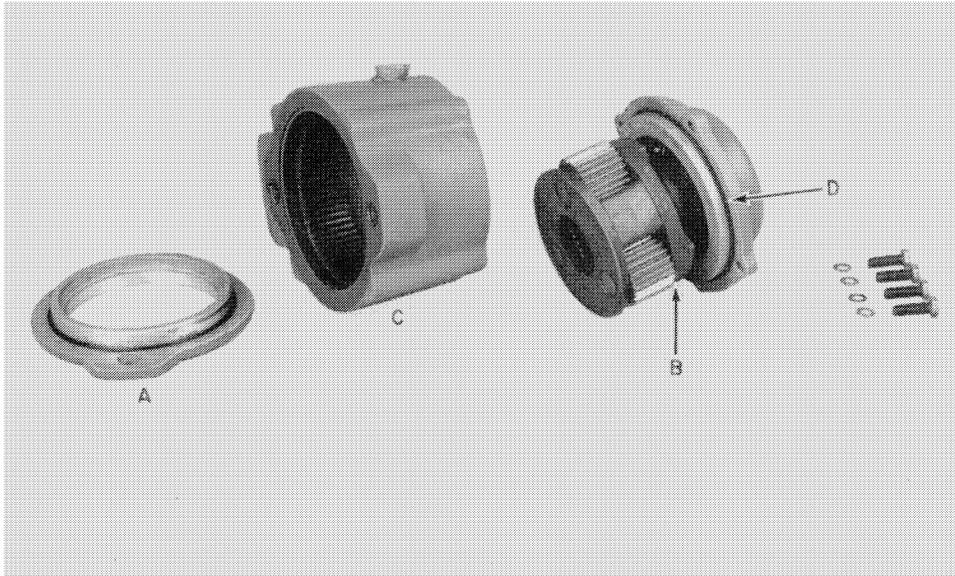

FIGURE 15
1. Remove adapter plate, A, Figure 15, from housing. Remove O-ring from adapter plate.
2. Remove four cap screws and remove front plate and planetary gear assembly, B, Figure 15, from housing. Remove O-ring from front plate.
2. Examine gear teeth and internal teeth in housing, C, Figure 15. The teeth should show no signs of excessive wear. Worn parts must be replaced.
5. Install new O-ring on face of front plate at D, Figure 15, and install assembly into housing. Secure with four cap screws and washers and tighten to 15-18 ft. lbs. (20-24 N·m) torque.
6. Install new O-ring on face of adapter plate, A, Figure 15, and install on housing assembly. Secure plate with two cap screws and tighten to 55-60 ft. lbs. (74-81 N·m) torque.